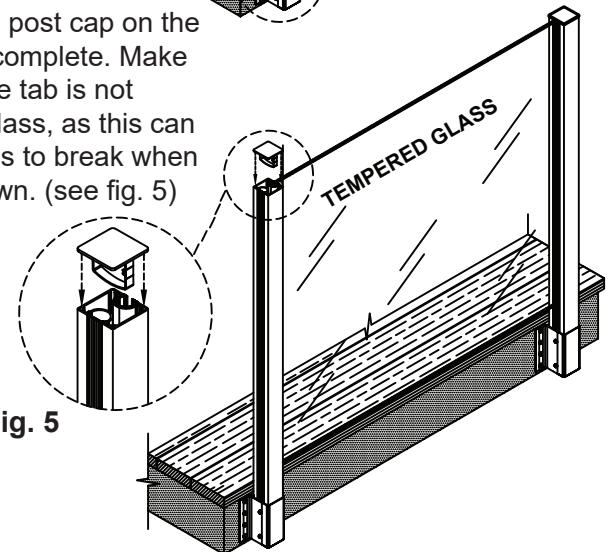

Fig. 5
Step 5: Press post cap on the top of post to complete. Make sure the middle tab is not touching the glass, as this can cause the glass to break when hammered down. (see fig. 5)